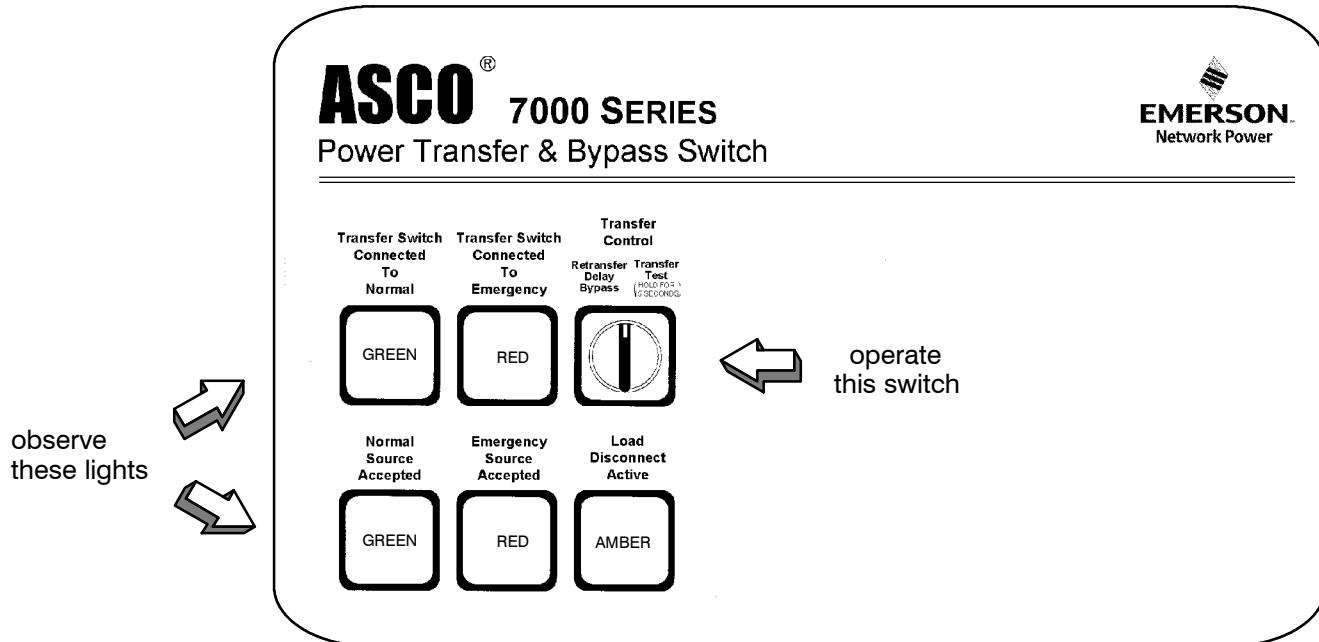

Figure 1-3. Standard controls and indicators.
2. Perform steps 1–5 at right. Observe the status lights. See Figure 1-3.